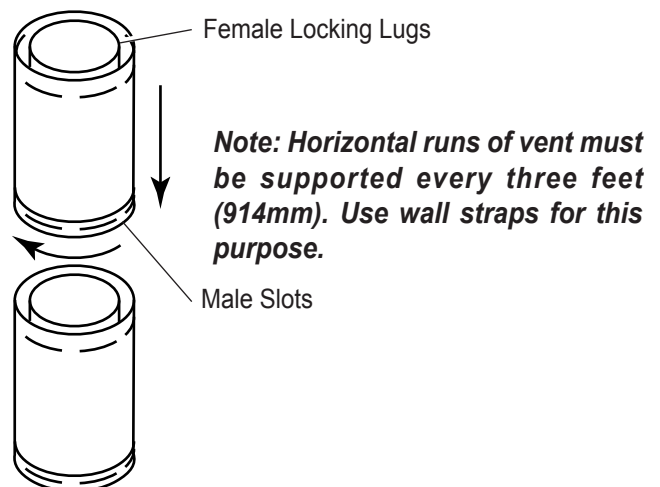

Figure 13 - Rigid Vent Pipe Connections
Twist-lock Procedure: The female ends of the pipes and fittings have three locking lugs (indentations). These lugs will slide straight into matching slots on the male end of adjacent pipes and fittings. Push the pipe sections together and twist one section clockwise approximately one-quarter turn until the sections are fully locked. See Figure 13.
2. Assemble the desired lengths of pipe and elbows necessary to reach from the burner system flue up through the firestop. Be sure pipe and elbow connections are fully twist-locked. See Figure 13, page 17.